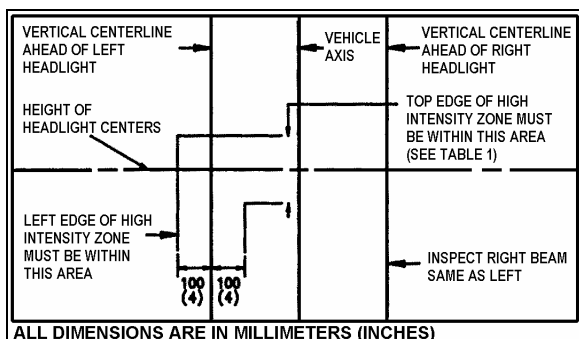

FIGURE 30: AIM INSPECTION LIMITS FOR LOWER-BEAM HEADLIGHTS 06506
7. The inspection limits in the vertical direction for low-beam headlights or the low beam of a dual-beam headlight, shall be as described in Table 1. In the horizontal direction, the left edge of the high-intensity zone shall be located from 10 cm (4 in) left to 10 cm (4 in) right of the vertical centerline of the beam. The viewing screen shall be located 7.6 m (25 ft) in front of the vehicle (Fig. 30).